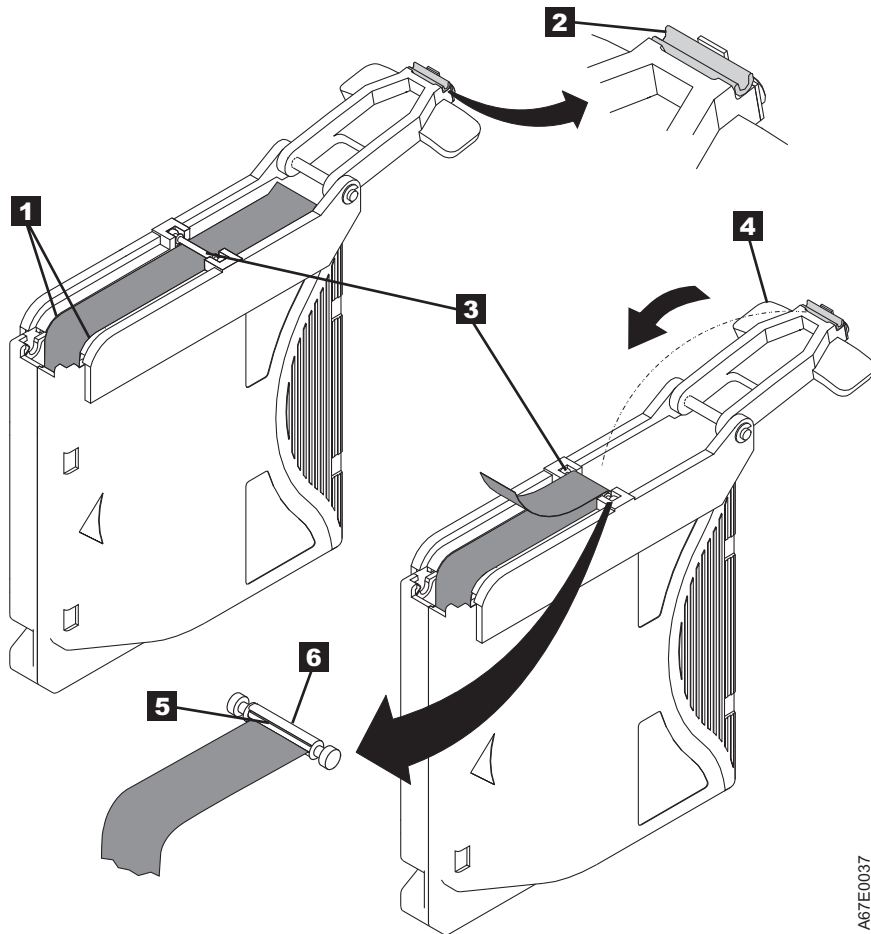

Figure 150. Attaching the leader pin to the tape
7. Position the tape in the alignment groove of the leader pin attach tool (see **1** in Figure 150 on page 180).
8. Place a new C-clip into the retention groove (**2** (Figure 150 on page 180) on the leader pin attachment tool and make sure that the clip's open side faces up.
9. Place the leader pin (from step 6) into the cavity (**3** (Figure 150 on page 180) of the leader pin attach tool.
10. Fold the tape over the leader pin and hold it with your fingers (see Figure 150 on page 180).